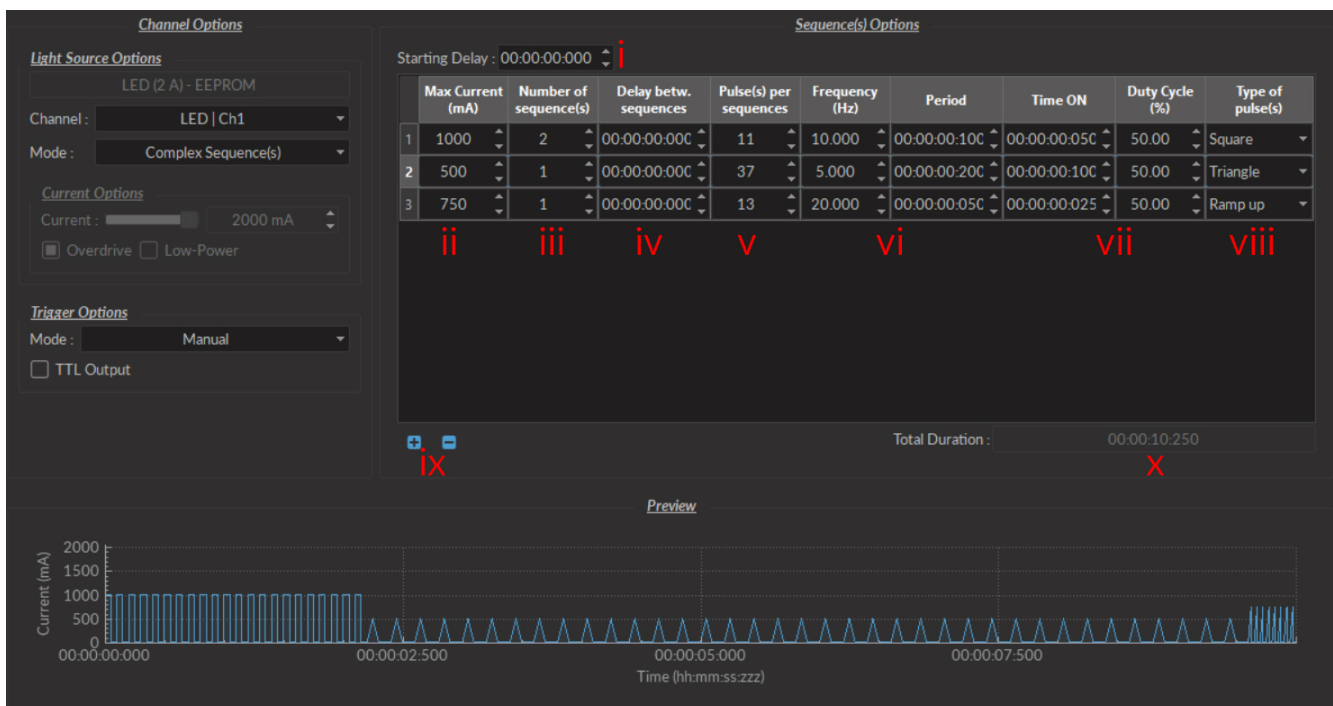
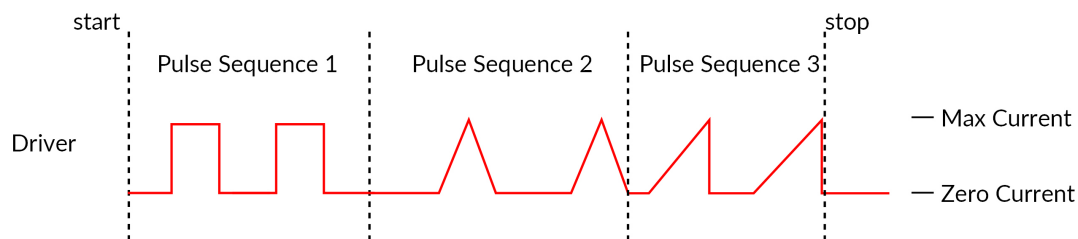

Figure 4.8: Complex Sequences Window
Figure 4.9: Internal Complex Mode Pulse Sequences
- The **Starting Delay** (Fig. 4.8) sets the delay (in hh:mm:ss:zzz format) before the first pulse sequence.
- The **Max Current** (Fig. 4.8) sets the maximum current (in mA) for the given sequence.
- The **Number of sequences** (Fig. 4.8) sets the number of times that the sequence will be repeated, with a minimum of 1.
- The **Pulses per sequence** (Fig. 4.8) sets the number of pulses per sequence, with a minimum of 1.
- The **Delay between sequences** (Fig. 4.8) sets the delay (in hh:mm:ss:zzz format) between each sequence if the **Number of Sequences** is greater than 1.
- The **Frequency/Period** (Fig. 4.8) sets the frequency (in Hz) or period (in ms) for the pulse sequence. These two values are linked, and when one is changed the other will adjust automatically. For example, a signal at 10 Hz (frequency) will output one pulse every 100 ms (period), whereas a pulse sequence at 0.5 Hz (frequency) will output one pulse every 2000 ms (period).
- The **Time ON/Duty Cycle** (Fig. 4.8) sets the time (in ms) or the duty cycle (in %) for each pulse. These two values are linked, and when one is changed the other will adjust automatically. The **Time ON** must be lower than $(1/\text{frequency}) + 0.005$ ms, while the **Duty cycle** must be below 100 %.
- The **Types of pulses** (Fig. 4.8) sets the pulse type. Pulses can be **Square**, triangular (**Triangle**), **Ramp up** **Ramp down** or **Delay** (Fig. 4.9). The **Delay** pulse type is used to create a delay between different sequence
- The **Sequence controls** (Fig. 4.8) allow the addition (+) or removal (-) of sequences to the spreadsheet.
- The **Total Duration** (Fig. 4.8) displays the total time of the experiment. The different values can be *Inf* for infinite, a valid time value or *Err* if the **Time ON** value is greater than $1/\text{frequency}$.